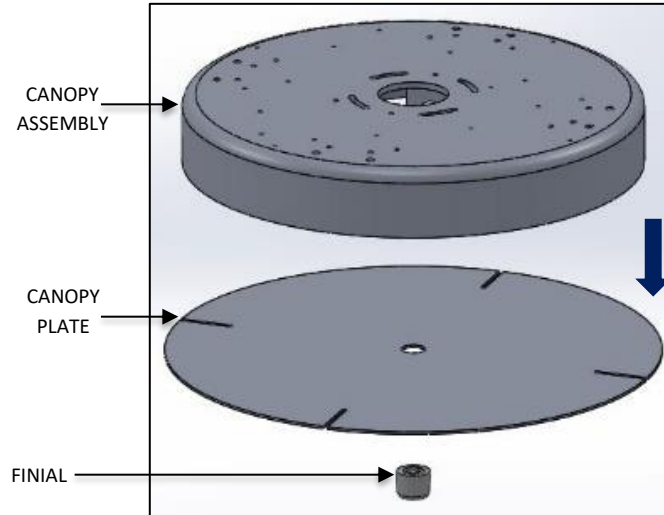

FIG. 5 – CANOPY DIS-ASSEMBLY
1. Dis-assemble the FINIAL and the CANOPY PLATE from the CANOPY ASSEMBLY as shown in FIG. 5 below.